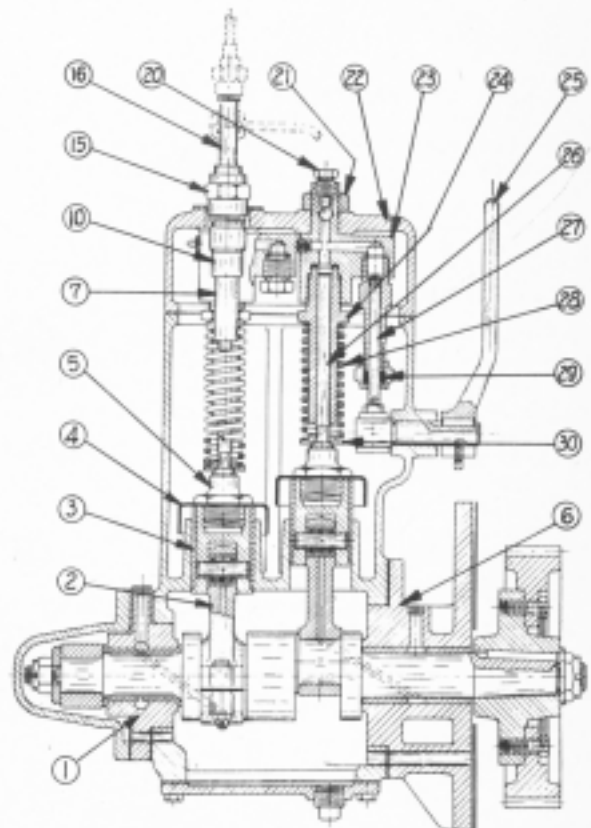

FIG. O-1
The construction is illustrated in Fig. O-1. Crankshaft bearings (1) and (6) in either end of the housing are separate castings, bolted to the housing and bronze bushed for the bearing surfaces. If replaced the bushings must be reamed to 1.6250" to 1.6255" and 1.5000" to 1.5005" diameter, after pressing in. The larger dimension is for the bearing in the gear end, which also carries the mounting flange by which the unit is attached to the gear casing. Both bearings are pressure lubricated from the engine force feed system, and oil holes through the crankshaft carry oil to the crank pin bearings. The connecting rods are also drilled, and feed oil up to the needle bearings at the wrist pins. A drain hole in the gear end bearing
Referring to Fig. O-1 priming pump plunger (27) is actuated by linkage from hand lever (25). (See Fig. O-1) The upper end of the plunger is formed as a valve head, which engages a seat in the barrel, preventing leakage when the engine is in operation. Leakage may be stopped by lapping lightly with fine grinding compound. Packing (29) at the bottom of the barrel seals the plunger when the pump is in use. Vent plugs (20) in each valve head should be loosened when priming the engine to allow the escape of air entrapped in the fuel system. Tighten the plugs as soon as solid fuel appears.